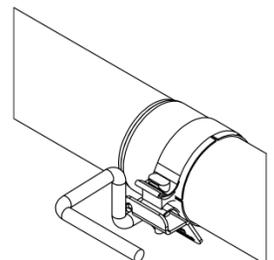

Figure 5
5. Install the **Y-Pipe** onto the **Extension Pipe** and secure it by hand tightening the **Hang Tight™ Hanger**. Refer to **Figure 5**.